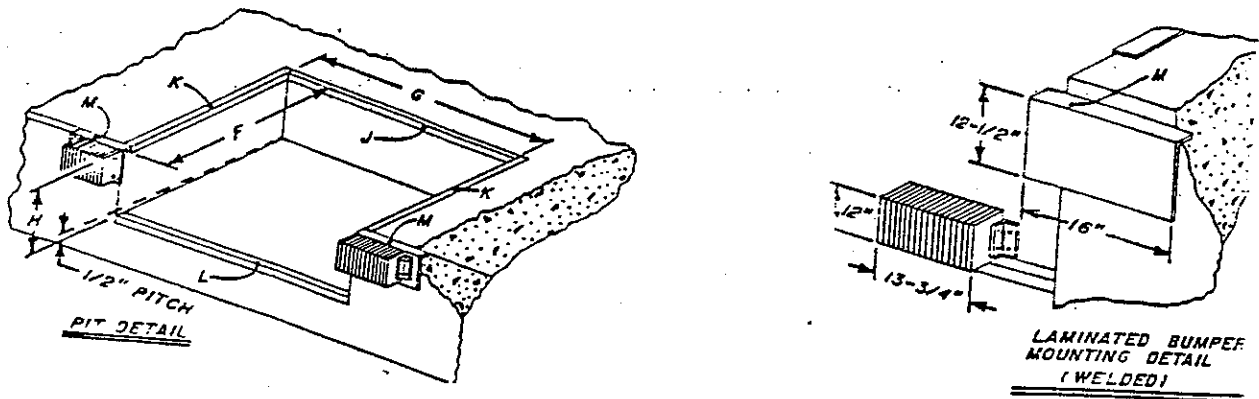

figure 1
1. Check pit for proper construction. Clean out all debris. Make sure the walls of the pit are plumb and square. Measure dimensions shown in figure 1 and table 1, measure pit depth along a straight edge laid across the width of the pit 6 1/2 inches from the rear wall and 2 inches from the edge of the dock.